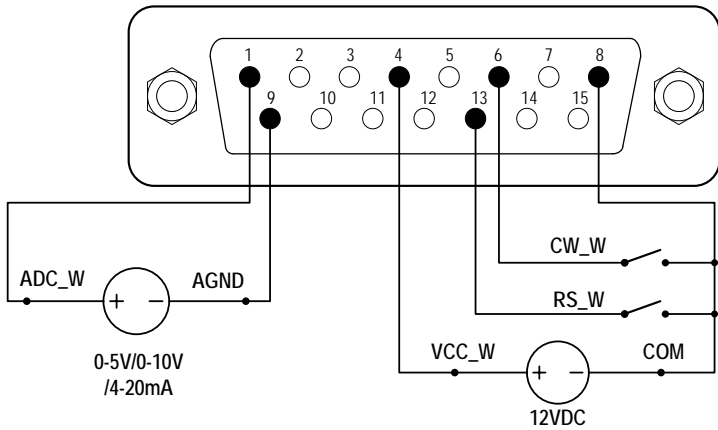
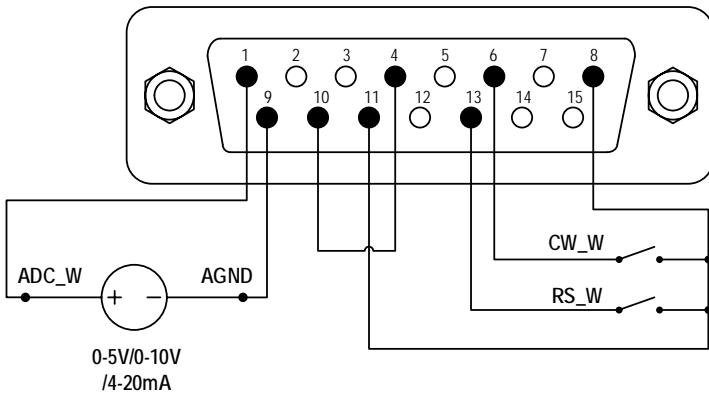

Figure 14. DB15 Wiring with External 12VDC Power Source
Figure 15. DB15 Wiring with Internal 12VDC Power Source
- 1) Turn off the power. Connect the DB15 connector to the DB15 port on the rear of the pump, as shown in Figure 14 or Figure 15.